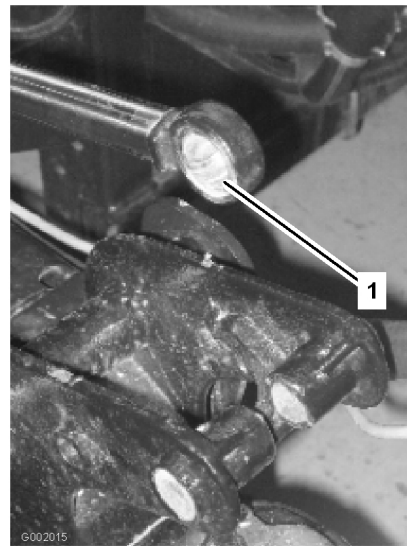

Figure 45
5. Manipulate the actuator rod bearing end and apply grease into the bearing (Figure 45). Wipe off excess grease.